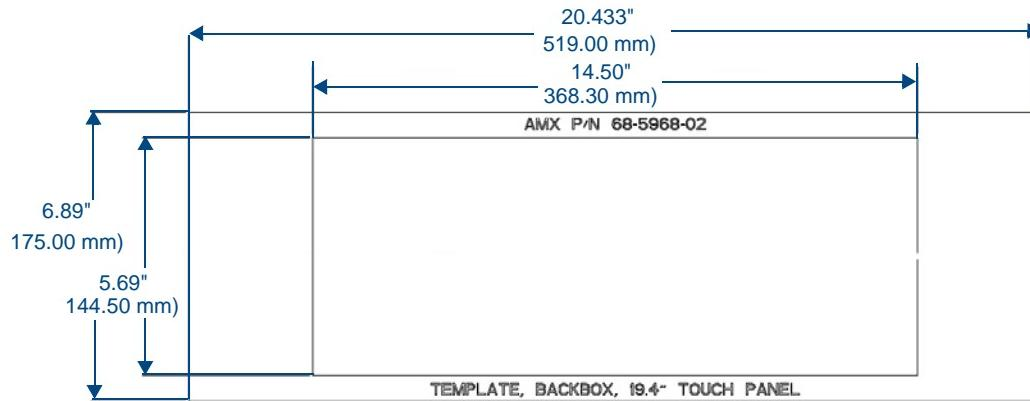

FIG. 17 MXD-1900L-PAN Template
2. Since the cutout for the back box is off-center from the edges of the touch panel, use the MXD-1900L-PAN Installation Template (**68-5968-02**) to ensure proper placement (FIG. 17).